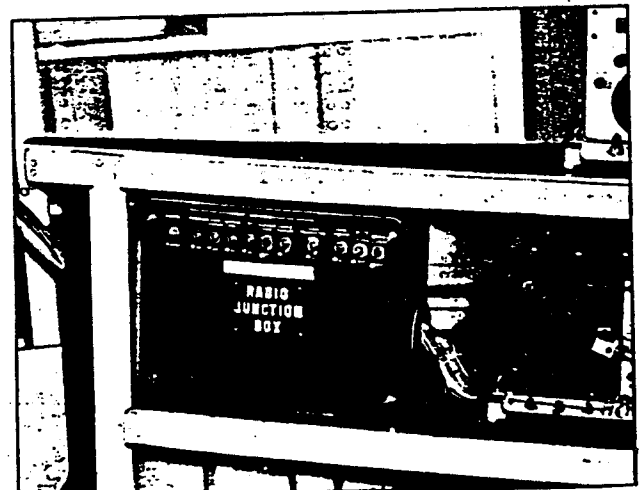

Figure 9. Radio Operator's Junction Box
4. RADIO JUNCTION BOX 514911. (See figure 9.)